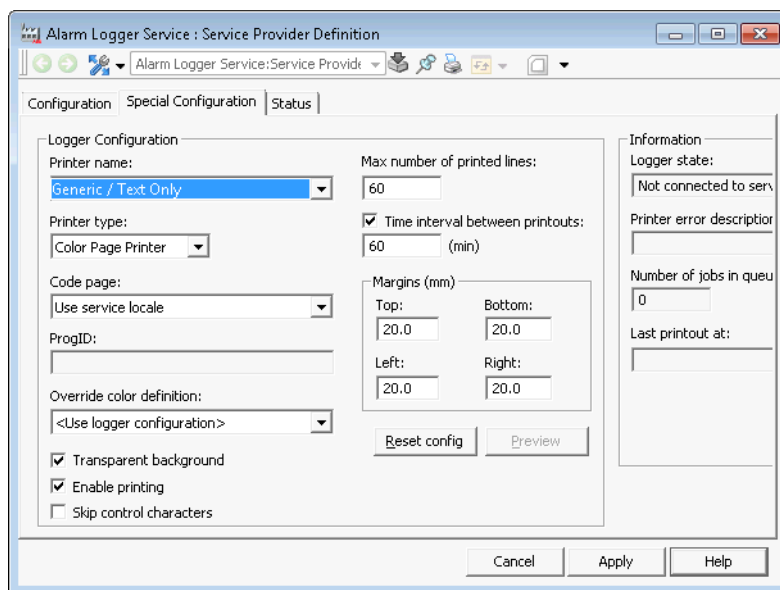

Figure 76. Service Provider Definition Aspect - Special Configuration Tab
7. Select the **Special Configuration** tab to customize the list printout. See Figure 76.